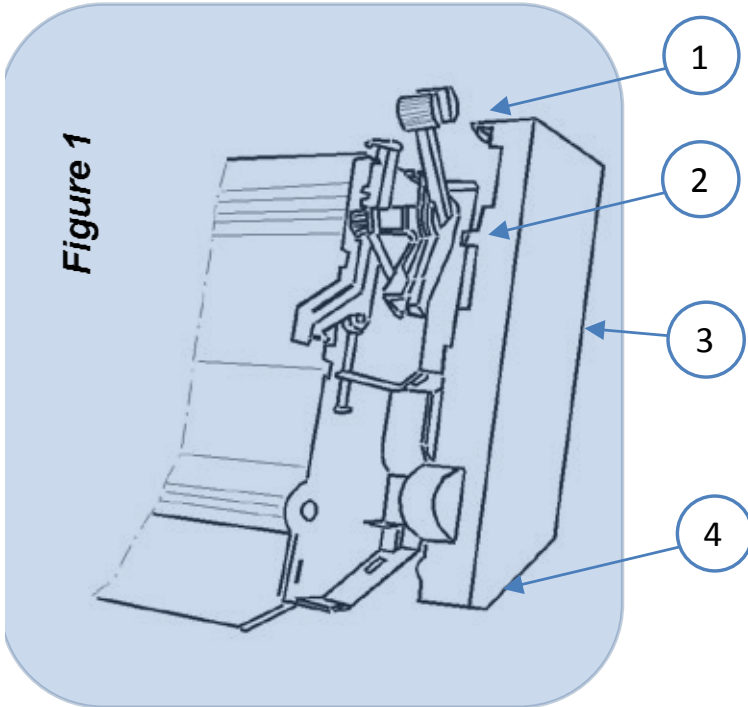

Figure 1
- Remove the lever-side cover of the ASF Cassette by releasing of the four snap locks (No. 1 - 4 in figure 1). Use a flat screw driver to do so and keep the sequence of figure 1.
- Remove both side covers of the ASF Cassette by releasing of each snap locks (No. 1 - 4 in figure 1).